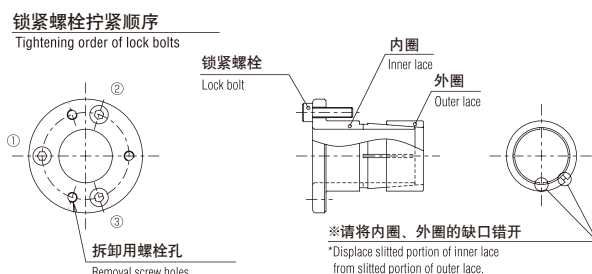

图2 Fig.2
此时注意让涨紧套内圈和外圈的缺口错开。(图2、4)
Insert the outer race of the clamping tool into the roller pinion, and then fit the roller pinion and the inner race of the clamping tool on the shaft in this order. At this time, shift the allocated positions of the inner race and outer race of the clamping tool (Fig. 2 and 4).
6. 调整后，将锁紧螺栓按照对角线的顺序(图2、4、6)，
After the adjustment, fasten the lock bolts diagonally (Fig. 2, 4 and 6) and uniformly starting at 25% or so of the recommended tightening torque with gradual increase.